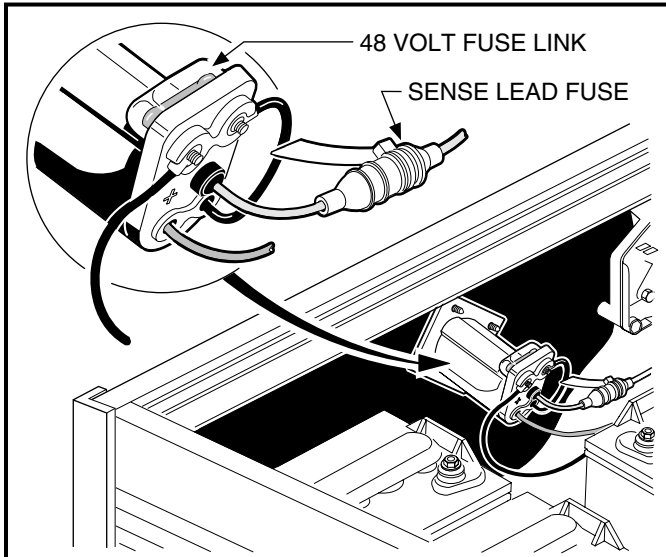

FIGURE 32
As an additional feature to protect the batteries and charging circuit from an overload, the electric vehicle is equipped with a receptacle fuse link (**Figure 32**). If the charger does not come on when the vehicle is placed on charge, visually inspect the fuse link. See WARNINGS below and at top of next page.
- NEVER MODIFY WIRING TO BY-PASS THE GREY SENSE LEAD FUSE (FIGURE 32).